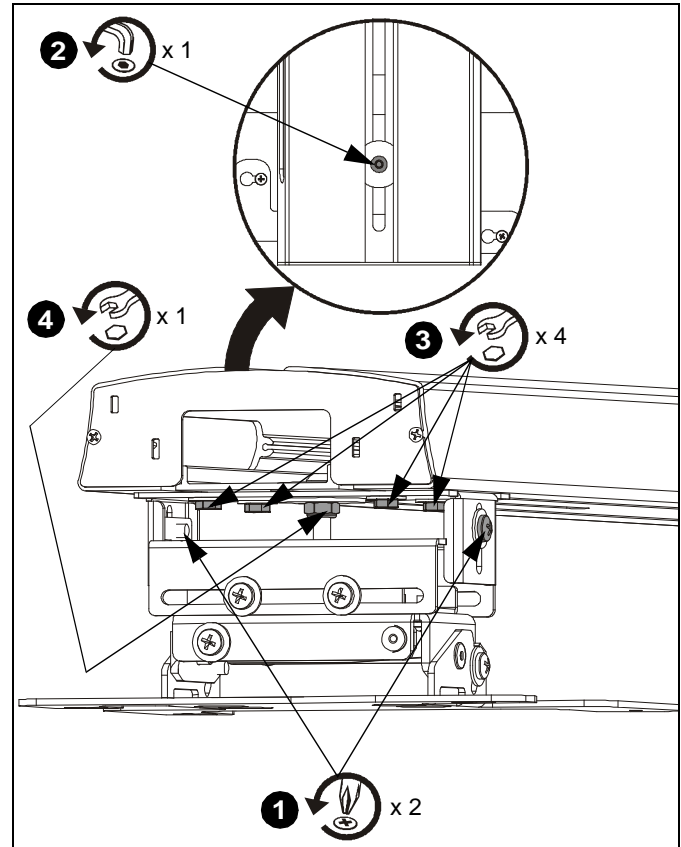

Figure 9
Lower projector mount [attached to short throw projector arm (A)] to lowest position. (See Figure 9)
1. Loosen two screws (one on each side of projector mount). (See Figure 9)
2. Turn the button head cap screw on top of mount counterclockwise to lower the mount. (See Figure 9)
3. Loosen four hex head bolts. (See Figure 9)
4. Loosen center nut. (See Figure 9)